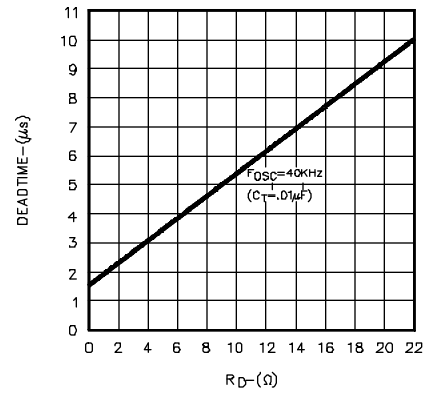

FIGURE 6. OUTPUT DRIVER DEADTIME VS. R_D VALUE
2. If more dead time is required, select a larger value of R_D using Figure 6 as a guide. At 40kHz dead time increases by 400nSec/ohm.